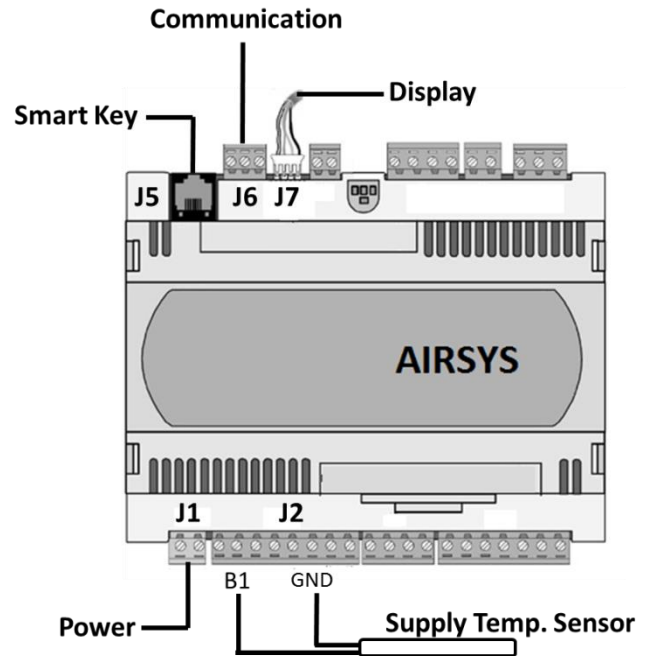

Figure 3: Controller Board Reference
- Connect the sensor to the B1 and GND terminals on the corresponding controller module (Unit 1 to HVAC1, Unit 2 to HVAC2). See Figure 3 for wiring.
- Disconnect J1 and J6 (Figure 3).
- Move J7 from Unit #1 (HVAC1) to Unit #2 (HVAC2). See Figure 3 for connector locations.